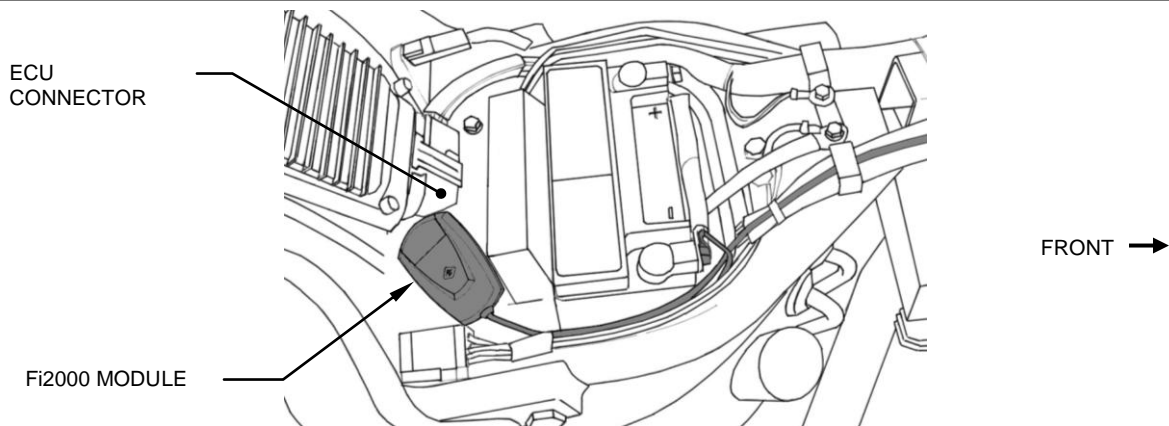
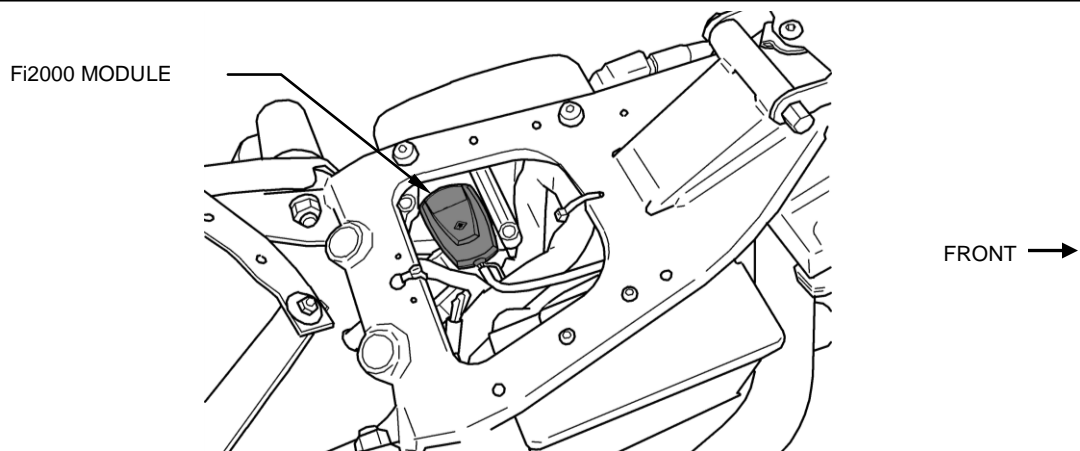
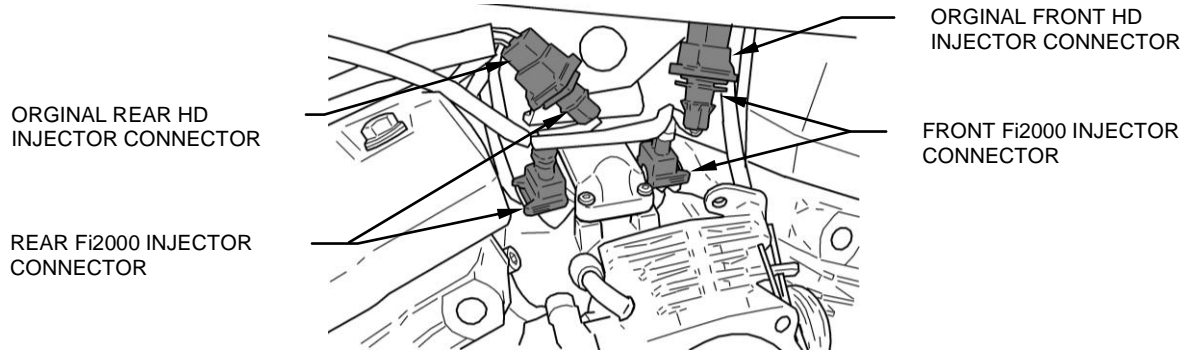
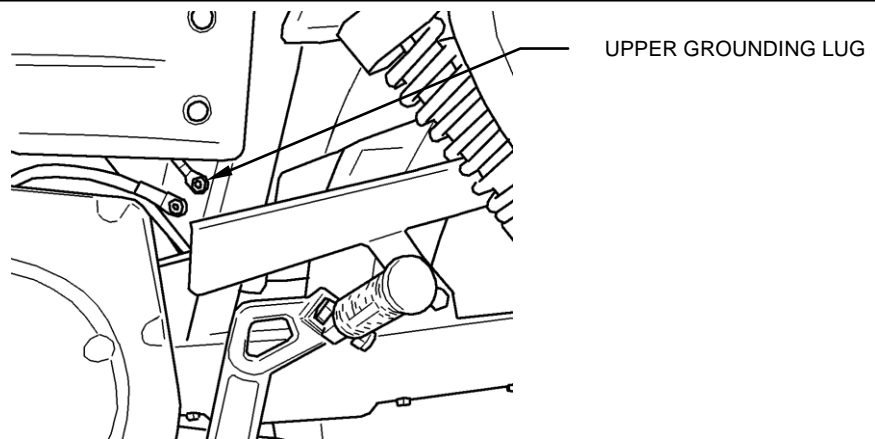

FIGURE 1
FIGURE 2
FIGURE 3
FIGURE 4
5. Lay the Fi2000 module in place, but do not attach it to the motorcycle at this time, run the wiring harness up to the manifold area behind the other wiring of the throttle body, (see Figure 1 for Softail and Figure 2 for Dyna.) Attach the Fi2000 module’s forward injector plug, with the grey and red wires to the front injector. Take the original HD connector and insert the corresponding Fi2000 connector with the brown and red wires, into it (refer to Figure 3.)
6. Attach the Fi2000 module’s rear injector plug with the blue and red wires to the rear injector. Then take the original HD connector and insert the corresponding Fi2000 connector with the green and red wires into it, (refer to Figure 3.)
7. Attach the black wire to the negative post of the battery on Softail models, (see Figure 1.) On Dyna models, route the black wire down behind the factory ECU until it appears below the coil/electrical box on the left side and attach to the upper ground lug on the frame, (see Figure 4).
8. Before re-installing the gas tank, seat and air cleaner assembly, verify your connections. Remove the door from the Fi2000 box to expose the LED’s. Verify the wire connections by (1) turning the ignition on, prior to starting, and see if all three LED’s are on steady. If you have no light, your ground connection (BLACK wire) has not made proper contact or your front injector connection is not complete. (2) After achieving a steady light from all three LED’s, start the motorcycle, wait 15 seconds and let it idle, the green light should now be the only LED on. If all three LED’s are still on after start up, verify you have attached the injector connectors correctly. Reattach the door when finished. **Note:** Make sure the ignition is turned off before changing any connection.
10. Remove the backing from the Velcro and attach the Fi2000 as shown for Softail in Figure 1 and Dyna in Figure 2.